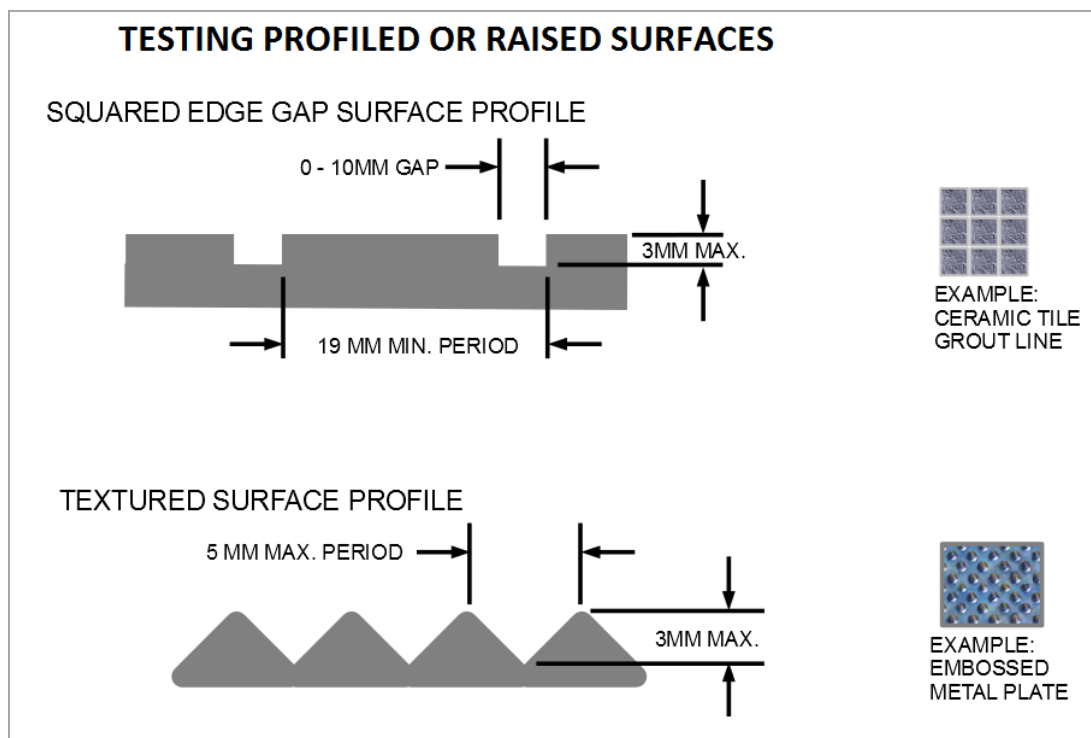

Figure 8
- Many types of textured or profiled floors can be tested without problems however, there may be occasional surfaces that can be quite challenging. These may be in the form of grates, embossed metal plates, mosaic tiles, random or patterned textured surfaces often found near pools, spas, patios, ramps, etc. See Fig. 8 for examples of limitations.